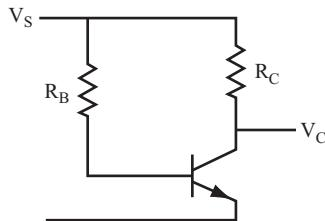

FIGURE 12.3
- 22.** Using the circuit shown in Figure 12.3, find the DC collector voltage, V_c , if $V_s = 28$ volts, $\beta = 10$, $R_B = 200 \text{ k}\Omega$, and $R_C = 10 \text{ k}\Omega$. _____
- 23.** Again, using the circuit shown in Figure 12.3, find R_B if $V_s = 12$ volts, $\beta = 250$, $R_C = 2.2 \text{ k}\Omega$, and $V_c = 6$ volts. _____
- 24.** Using the circuit shown in Figure 12.3, find β if $V_s = 10$ volts, $R_B = 100 \text{ k}\Omega$, $R_C = 1 \text{ k}\Omega$, and $V_c = 5$ volts. _____